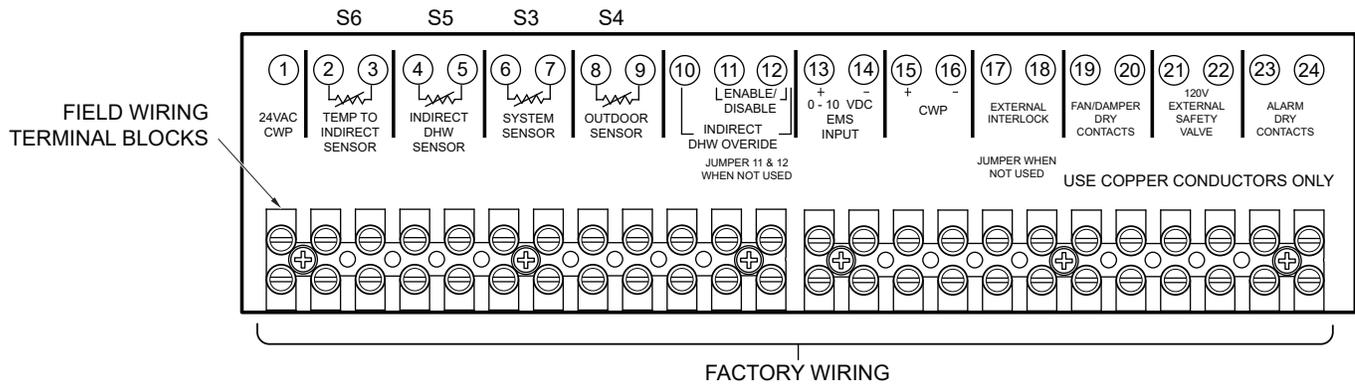

Figure 41. Low-Voltage Field Wiring
2. To enable this remote control function, set DIP switch 5 to the UP position on the PIM. DIP switch 5 Toggles between an EMS (UP) signal or a demand signal from the VERSA (DOWN). DIP switch 2 on the PIM toggles between a Direct Drive (UP) input and a Target Temperature (DOWN) setpoint.
4. Connect an Energy Management system or other auxiliary control signal to the terminals marked 0-10V (+/-) on the field wiring terminals. See **Figure 41**. Caution should be used to ensure that the +0-10V connection does not create a short to ground.
Connect the Enable/Disable (terminals 11, 12) wiring to the field wiring terminals as shown in **Figure 41** and in place of the factory installed jumper. Alternately, any dry contact closure (including a remote thermostat) across these terminals will enable the XVers boiler to run.
1. When using a System Sensor, connect the sensor wires to the terminals marked (6, 7) SYSTEM SENSOR. See **Figure 41**.
1. If using an Outdoor Air Sensor, connect the sensor wires to the terminals (8 & 9) marked OUTDOOR AIR SENSOR. See **Figure 41**.
Connect the indirect tank sensor to the terminals (4 & 5) marked INDIRECT DHW SENSOR. See **Figure 41**. Caution should be used to ensure neither of these terminals becomes connected to ground. When using an indirect DHW Sensor to control tank temperature, contact closure is required across the indirect override connections for proper operation.
The S6 sensor is used in mode 3 only. Connect the S6 sensor to terminals (2 & 3Z) marked TEMP TO INDIRECT SENSOR. See **Figure 41**. Caution should be used to ensure neither of these terminals becomes connected to ground.
2. Connect the system supply sensor to terminals 6 and 7 on the field wiring strip located on the Master boiler. See **Figure 41**.
3. Connect the Outdoor sensor (if used) to terminals 8 and 9 on the field wiring strip located on the Master boiler. See **Figure 41**.
4. Connect the Enable/Disable wiring to terminals 11 and 12 on the field wiring strip located on the Master boiler. This connection must be provided through dry contacts closure. See **Figure 41**. Applying 24VAC to these terminals will result in blowing the fuse on PIM.